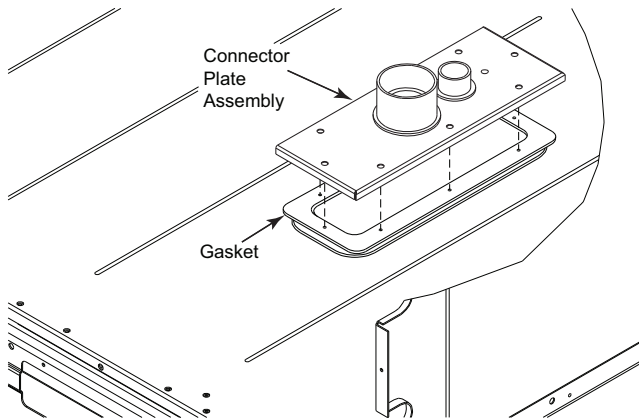

Fig. 38 — Completing Installation of Thru-the-Base Option
3. Place the gasket over the embossed area in the basepan, aligning the holes in the gasket to the holes in the basepan. See Fig. 38.